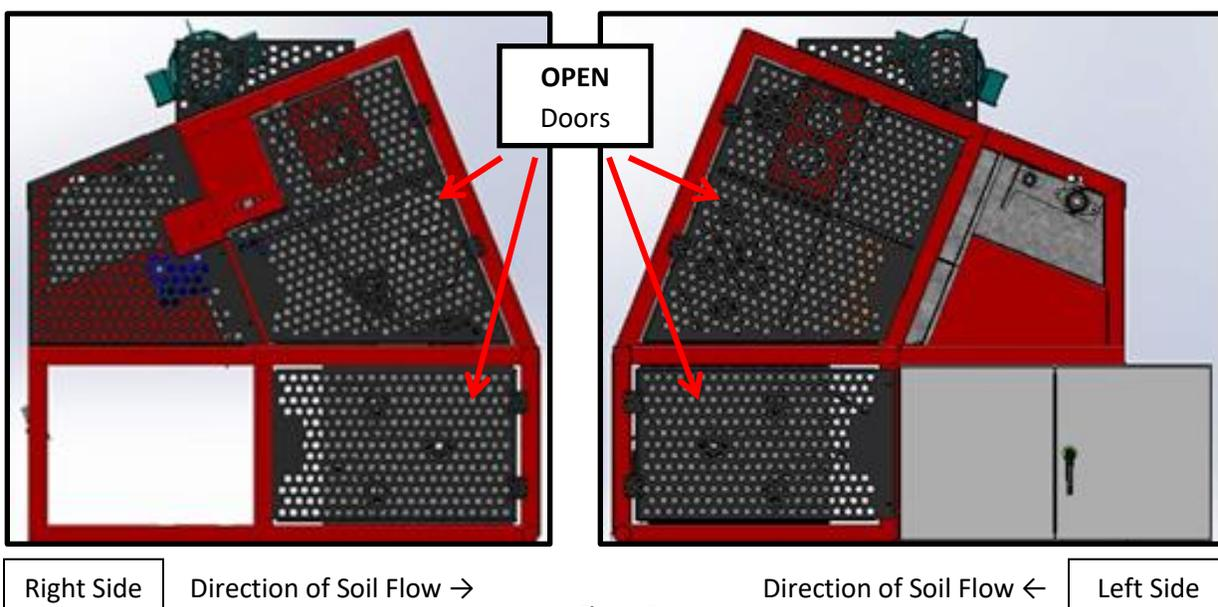

Figure 1
1. To gain access, open right-front upper and lower doors. Open left-front upper and lower doors. **Note:** A bungee cord may be utilized on upper doors to retain them. **See Figure 1.**